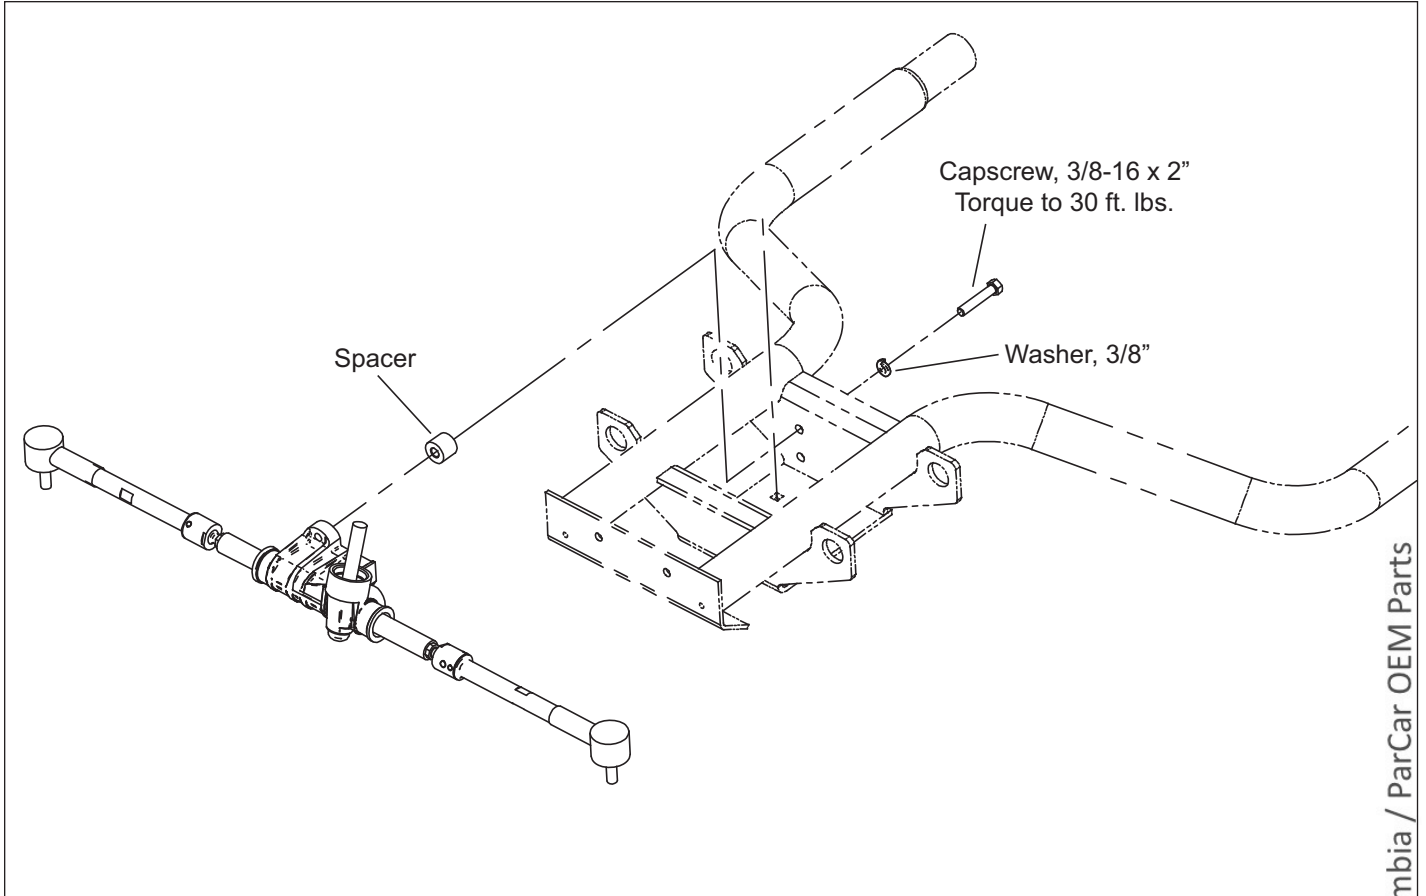

Figure 6-7. Rack and Pinion Assembly
1. Install steering rack to frame with spacer and three capscrews (Figure 6-7). Tighten capscrews to 30 ft. lbs. (41 Nm).